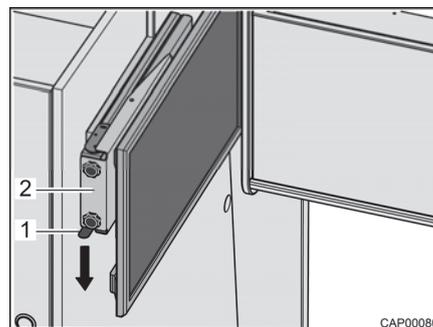

Fig. 70 Pull-out with flat screen
- Press catch spring (Fig. 70,1) downwards and pull pull-out (Fig. 70,2) with flat screen out horizontally towards the centre of the vehicle.
- Push the pull-out (Fig. 70,2) with flat screen in horizontally as far as it will go. The catch spring (Fig. 70,1) engages audibly.